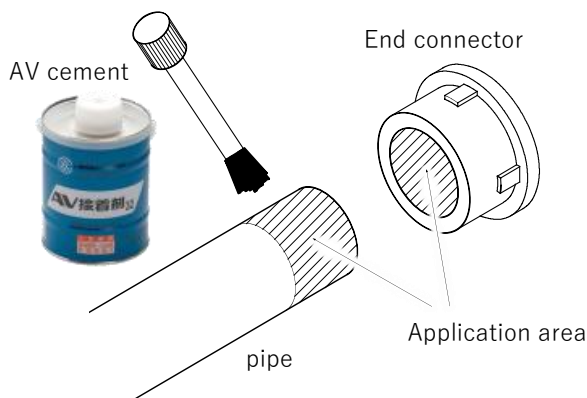

Figure 5.3-1
- 5) Referring to ""**Table 5.3-1 Guideline for Amount of Adhesive**"" , apply adhesive evenly to the socket section of the end connector, then to the pipe insertion section (**Figure 5.3-1**).